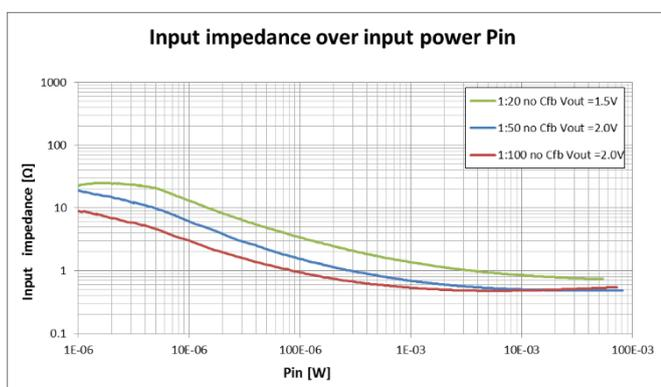

Figure 5-7 Input Impedance vs Power No C_{FB}
The TEG electrical impedance and the EM8900 input impedance have to match as shown in Figure 5-7 to Figure 5-13. As a function of the operating power range, the TEG electrical impedance should be selected as closely as possible to the value shown.
4. According to the Figure 5-7, the ideal TEG electrical resistivity is about 2 Ω at 20 μ W.